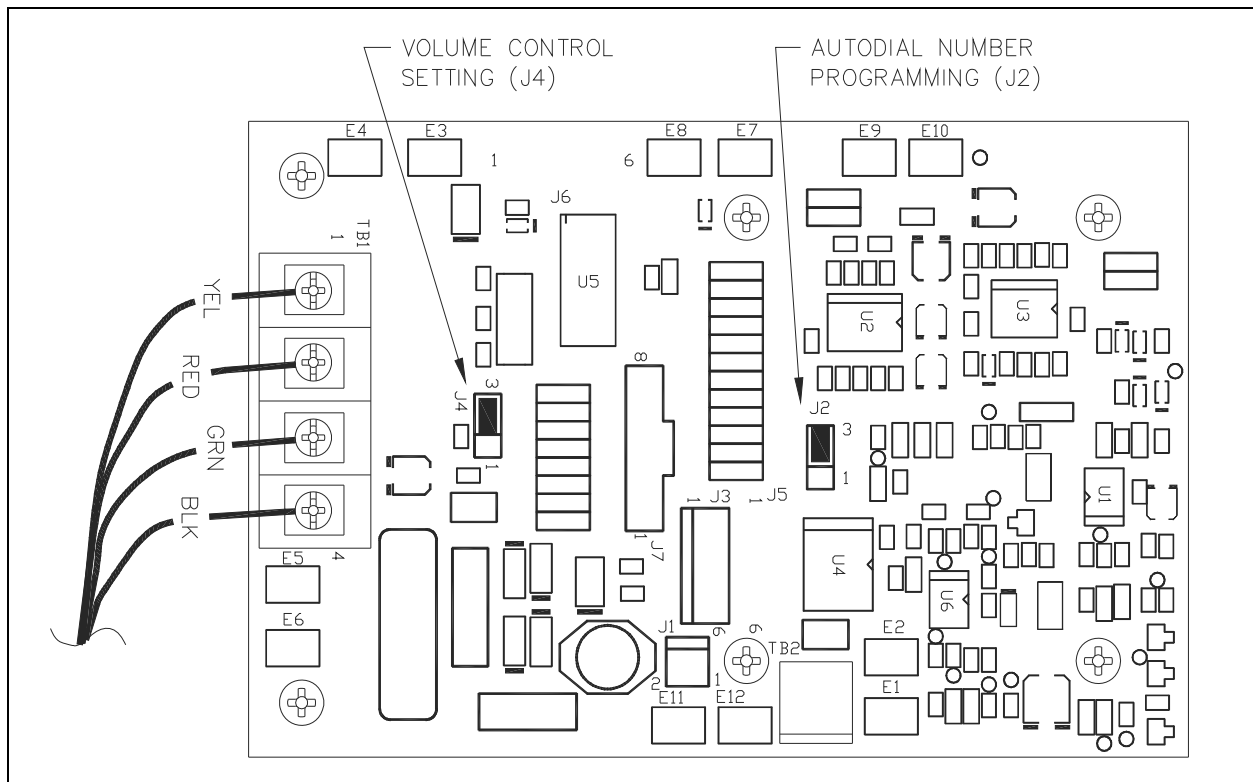

Figure 16. Main PCBA Jumper Locations for Auto-dial Telephone
2. Insert the supplied portable keypad and cable into J7 (see Figure 16).